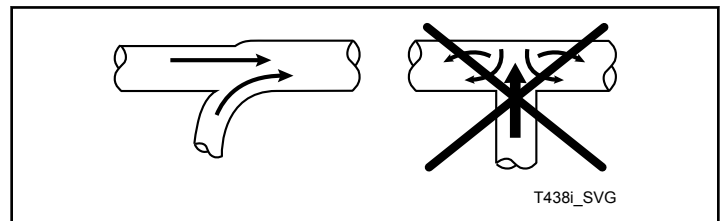

Figure 13
**NOTE: Never connect a tumble dryer duct at a 90° angle to the collector duct. Refer to *Figure 13*. Doing so will cause excessive back pressure, resulting in poor performance. Never connect two tumble dryer exhaust ducts directly across from each other at the point of entry to the collector duct.**